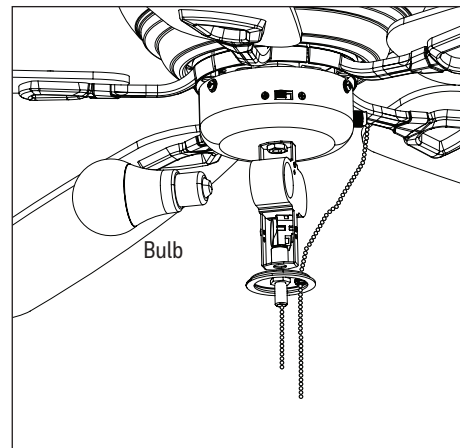

Figure 2.14
14. Install the two E26-base LED bulbs (Figure 2.14).